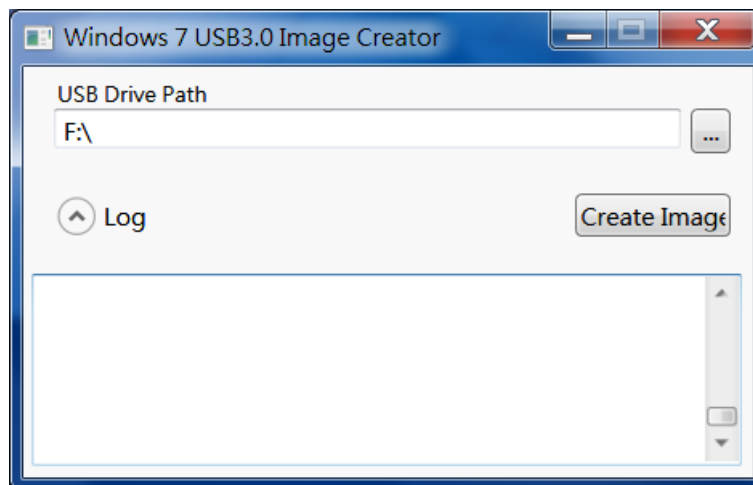

Figure 4-21: Windows 7 USB 3.0 Creator Utility
Step 6: The Windows 7 USB 3.0 Creator Utility screen appears (**Figure 4-21**). Click  to browse to the root of the USB drive containing the Windows 7 image.